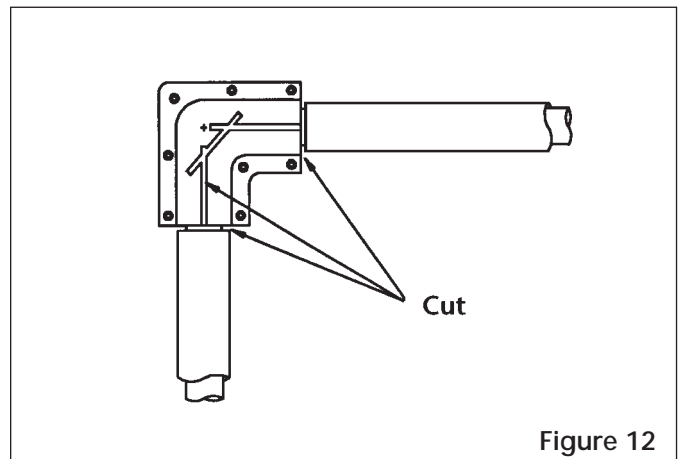

Figure 12
**C. Replacing Failed Containment Joints**—When cutting out and replacing a containment fitting, be careful not to cut the internal primary product pipe (see Fig. 12).
- a. Dissect the containment fitting and the containment pipe around the circumference as shown in Fig. 12. Remove the containment elbow.